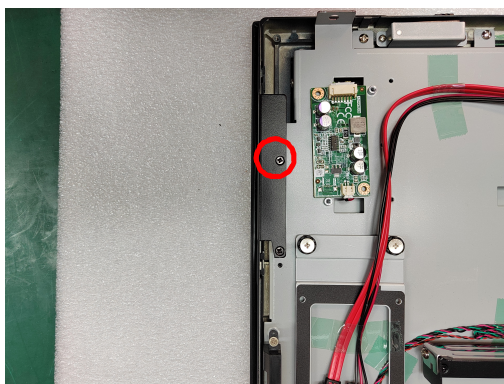

Figure 2.20
- Secure the assembled antenna holder to the top of the panel PC. Then connect the cables to the wireless LAN card (see Fig. 2.20).